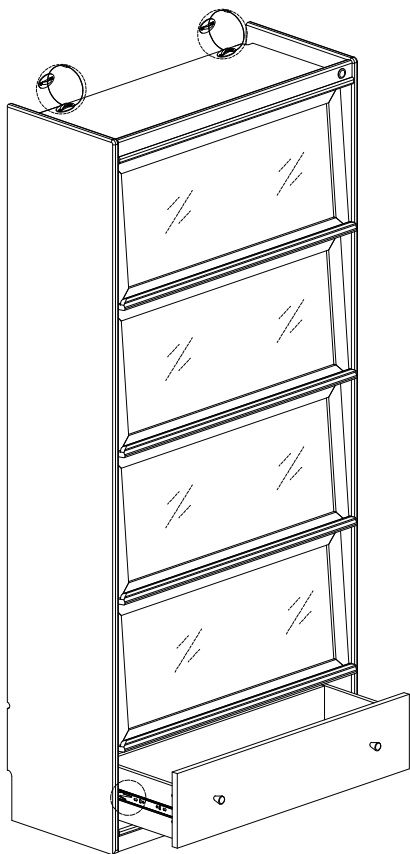

Figure 2
►As shown in the figures: 1. Pull out the drawer slides on the left and right side panels, then install the drawer assembled in Step 9 into the cabinet body. Note that the drawer slides need to be pushed in multiple times (Figure 1). 2. Secure the cabinet body to the wall using Anti-Tip Hardware M (Figure 2).